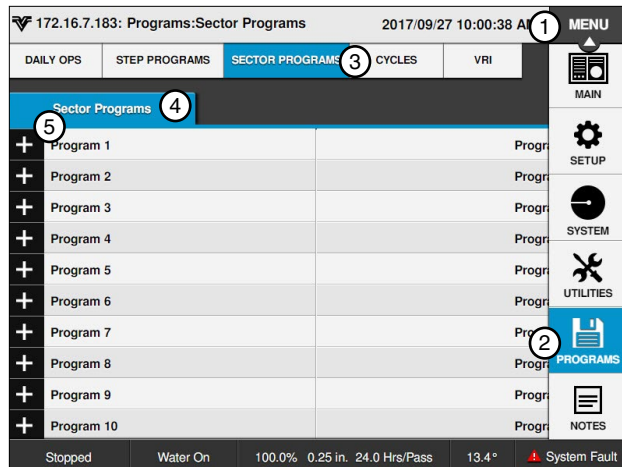

Figure 148-1 1. Menu 2. Programs 3. Sector Programs 4. Sector Programs 5. Add Program
1. Push **Menu**, **Programs**, and **Sector Programs** to view the Sector Programs screen. Refer to Figure 148-1.